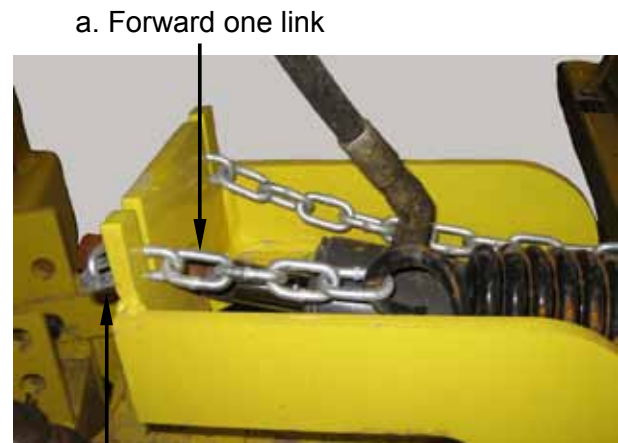

figure 2
- a. If the brush pattern is too wide, move chain, attached to spring, forward one link. Repeat on the opposite side. (figure 2)
- b. If the brush pattern is too narrow, move chain, attached to spring, backward one link. Repeat on the opposite side. (figure 2)